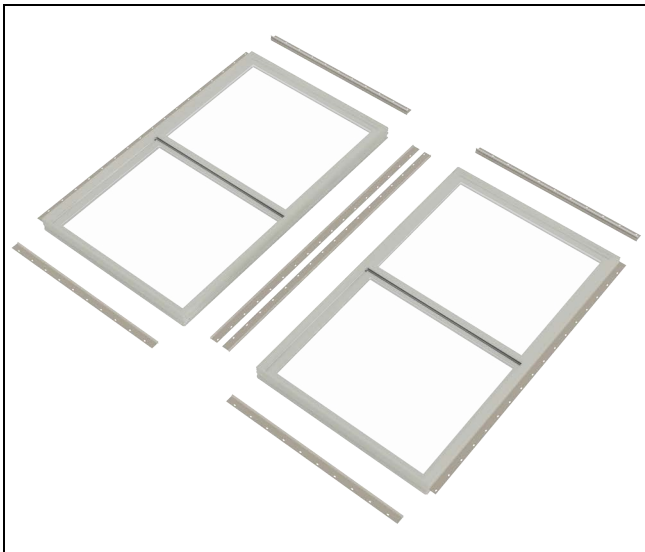

Figure 2
4. Lay the units to be mullied on a flat sturdy surface exterior side up. Remove all nailing fin, if present, from windows at the mull and perpendicular to the mull. See Figure 2.